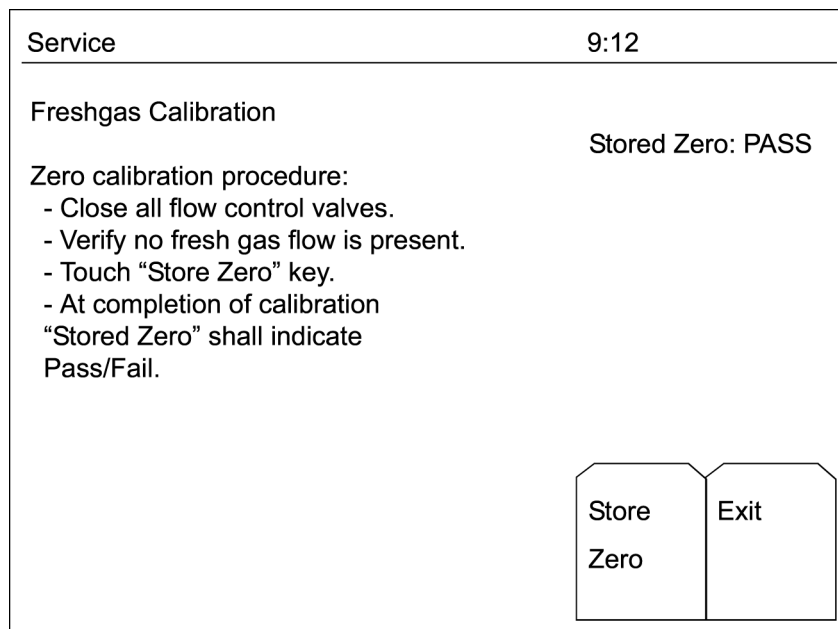

Figure 8 Fresh Gas Flow Calibration
3. Scroll to Calibration and select Fresh Gas Flow to bring up the flow calibration screen. See Figure 8.